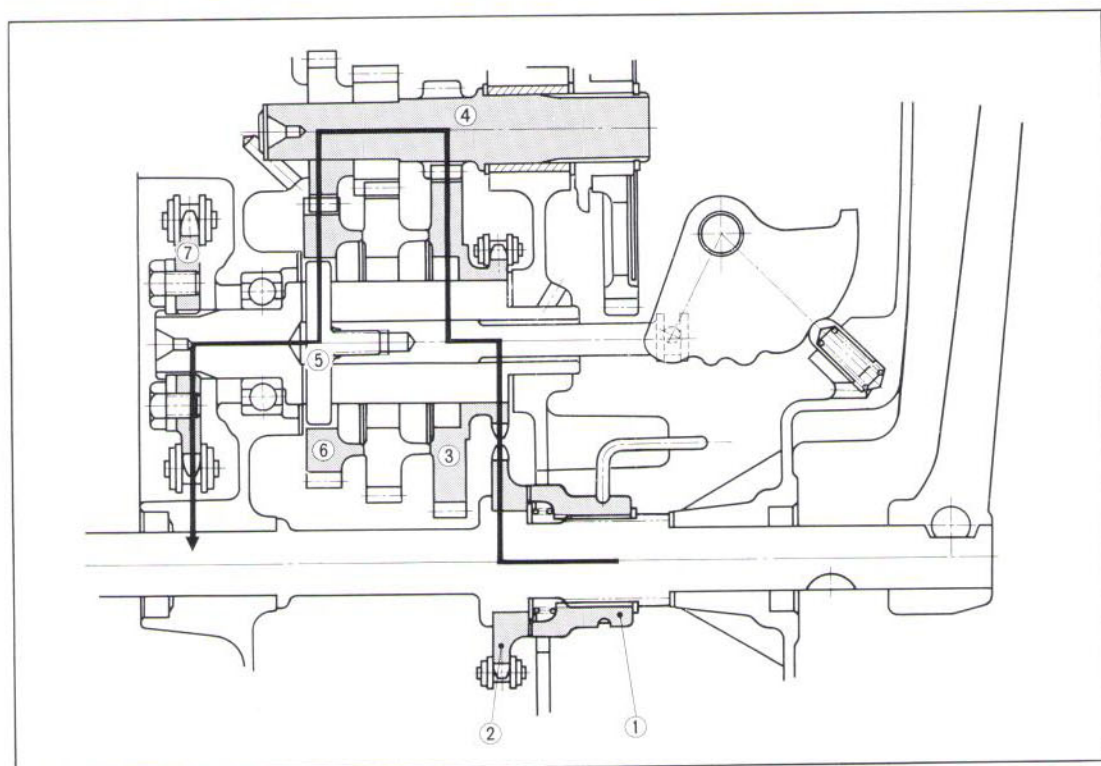

Fig. 3.70
This will cause the main shaft ④ to rotate and at the same time causes the main shaft gear and also countershaft gear and also countershaft to rotate. Twist the gear change grip to select the desired transmission gear position ①, ② or ③ (for pedaling, use the 3rd gear position as it will be the fastest speed and the gear change pawl ⑤ will engage with the countershaft top gears ⑥ through the action of the gear change cable. For this reason the power is transmitted to the countershaft through the gear change pawl, drive sprocket ⑦ is rotated and the power is transmitted to the rear wheel. Further, since main shaft is also transmitted to the drive gear, driven gear and to the clutch. However, since the clutch is disengaged the power is not transmitted to the clutch and crankshaft, providing a light pedaling action. (Fig. 3.70)